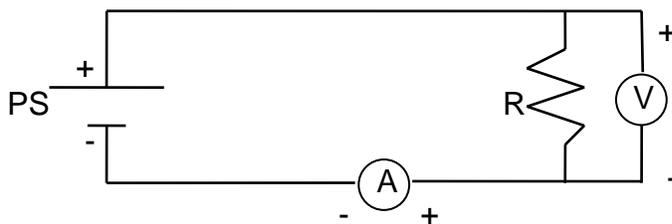

FIGURE 1
1. Connect the apparatus as shown in Fig. 1, using the 10 ohm resistor for R . Although this resistor is stamped $10\ \Omega$, it will not be exactly 10 ohms when measured. Resistors are guaranteed accurate only within a certain percent (10% in this case) which is usually indicated on the resistor in some way. The power supply (PS) has a control so that by rotating it the voltage across the resistor (and hence the current through the resistor) can be varied from zero to some maximum value.